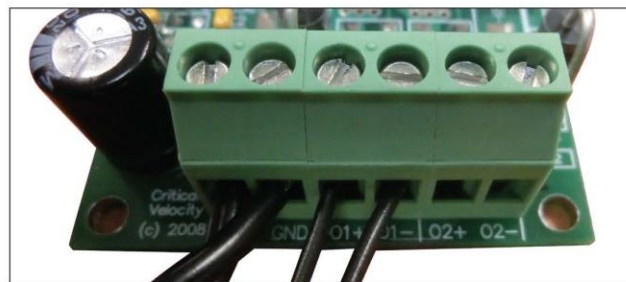

Figure 3. Power Supply and Valve Coil Terminals
Step 1: Wire power supply to the VC-2, VC-2P or VC-2C (See Figure 3)
Step 2: Wire PWM signal output to the valve coil (See Figure 3)